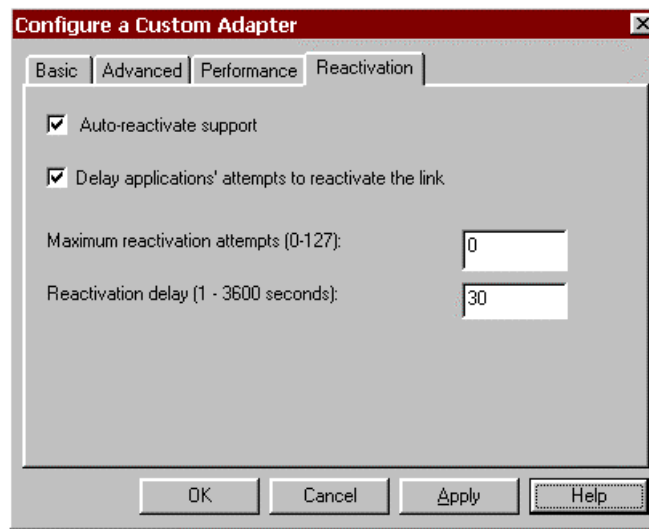

Figure 11-7. Reactivation Dialog
- **Window Size:** Specifies the maximum number of Information (I) frames that may be received from the host at once. The default of 7 provides the best performance for the ESCON adapter.
5. For version 4 and above, click the **Reactivation** tab (Figure 11-7). A link may fail to start or fail after a successful start for a variety of reasons. You may set automatic reactivation parameters for the ESCON adapter so that it will automatically attempt to restart following a failure. The following fields are used to control reactivation: